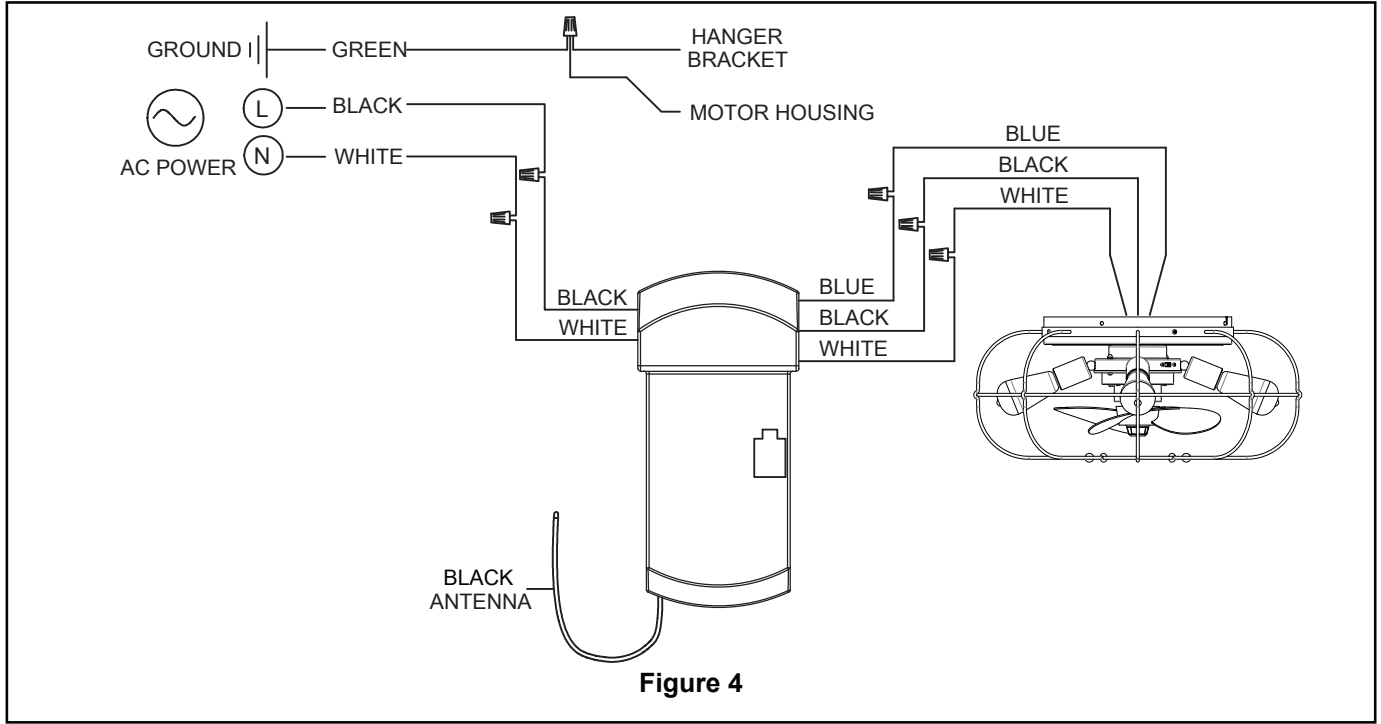

Figure 4
3. Connect green wires from hanger bracket and motor housing to bare (ground) wire using wire connector. Connect black wire from receiver unit marked “AC IN L” to black supply wire using wire connector. Connect white wire from receiver unit marked “AC IN N” to white supply wire using wire connector. Connect white wire from receiver unit marked “TO MOTOR N” to white wire from fan using wire connector supplied with receiver unit. Connect black wire from receiver unit marked “TO MOTOR L” to black wire from fan using wire connector supplied with receiver unit. Lastly, connect blue wire from receiver unit to the blue fan light wire using wire connector supplied with receiver unit. (Figure 4)